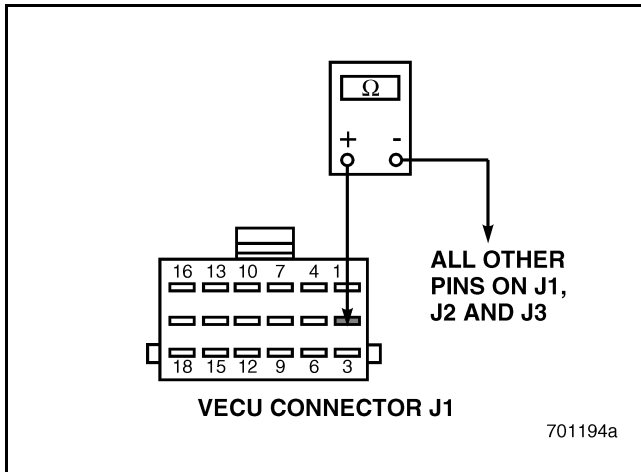

Figure 97
5. Check for continuity between VECU connector J1 pin 2, and all other pins on VECU connectors J1, J2 and J3 (see Figure 97).